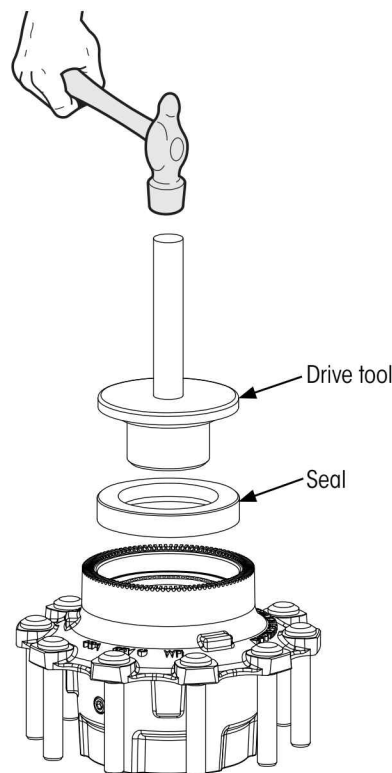

Figure 9: Hub-mounted seal installation
NOTE: A hub seal driver (Figure 9) is recommended and can be obtained from seal manufacturer.
7. **Place** seal onto the drive tool (Figure 9) for installation into the hub according to seal manufacturer's instructions.